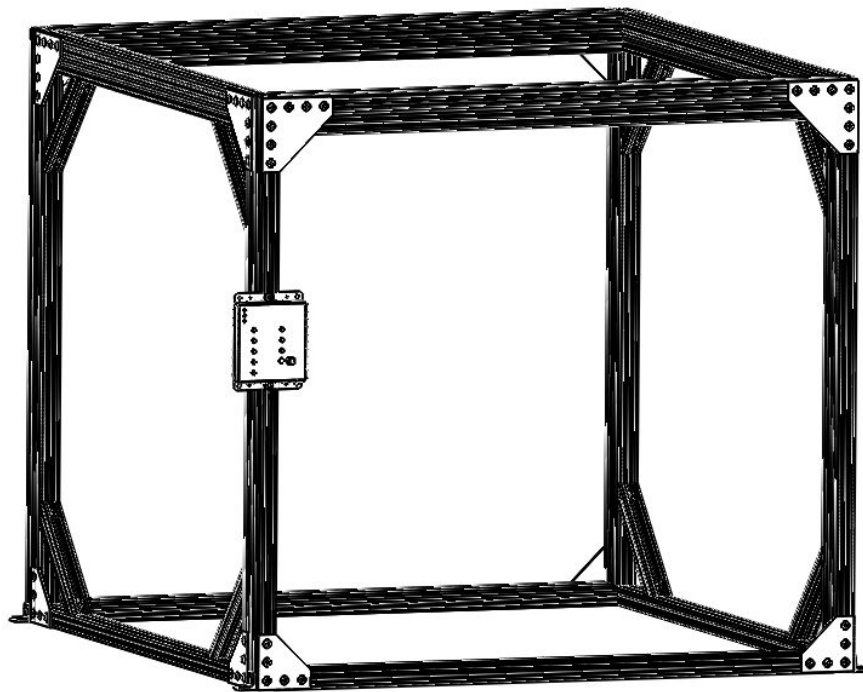

Figure 4.35: Enclosure with Main board
- ❑ Finish the assembly of the enclosure as shown in Fig. 4.35.